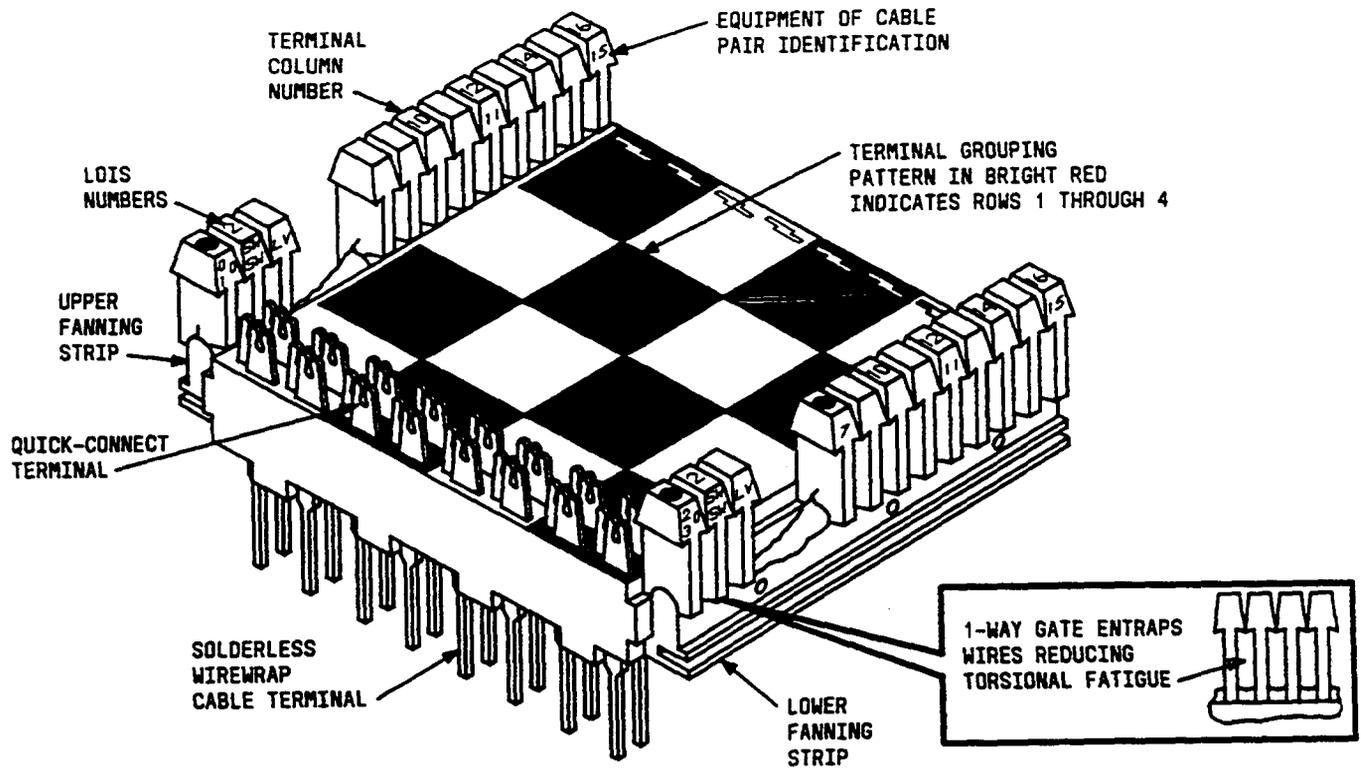
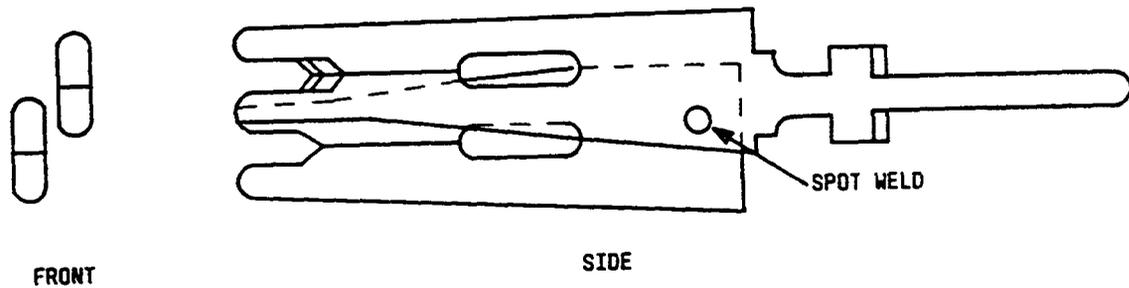

Figure 4—78C-Type Connecting Block Features
Figure 5—Views of Terminal Used on 78C-Type Connecting Blocks
2.09 Figure 4 shows the features of the 78-type connecting block; Figure 5 shows the bifurcated, insulation displacement-type, quick-connect terminal; Figures 6, 7, and 8 show the 50-, 64-, and 100-pair terminal arrangements; and Table A lists the various 78-type connecting blocks in application order beginning with tie pairs.